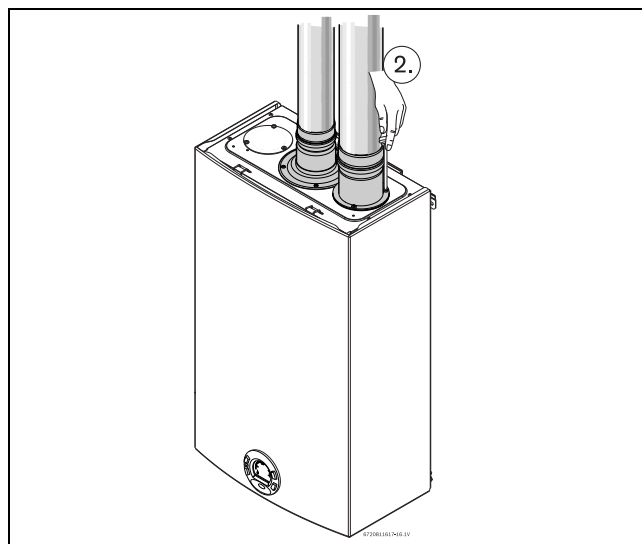

Fig. 18 Inlet connection
- Attach the combustion air inlet accessory to the top of the unit fig. 18 (position 2) using the 3 screws and gasket provided, and install 3" air intake pipe over the accessory.